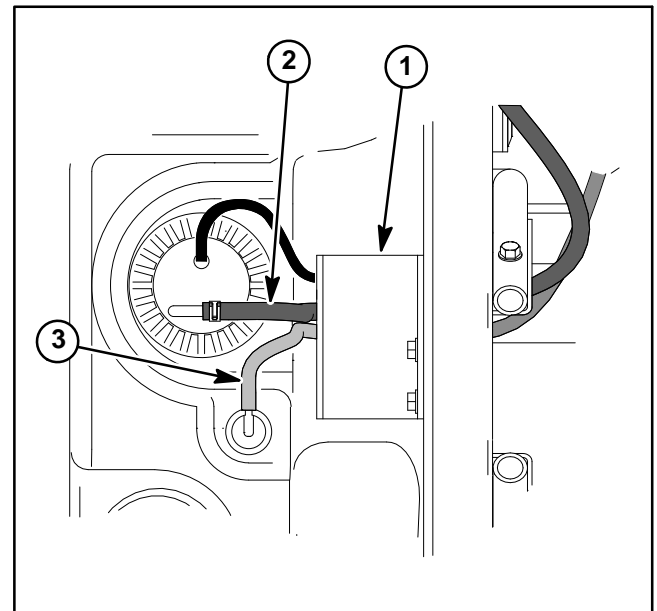

Figure 9
4. Note routing of fuel hoses for installation purposes (Fig. 9). Disconnect fuel supply hose from fuel pump/sender and tank vent hose from rollover valve. Plug fuel hoses to prevent leakage or system contamination.
2. Remove plugs placed in fuel hoses during fuel tank removal. Connect fuel supply hose to fuel pump/sender and tank vent hose to rollover valve (Fig. 9). Secure fuel hoses with hose clamps.
4. Position retainer plate to tank and frame. Make sure that fuel hoses are correctly placed under plate (Fig. 9). While pressing down on retainer plate to best retain tank, install and tighten washer head screws to secure fuel tank.